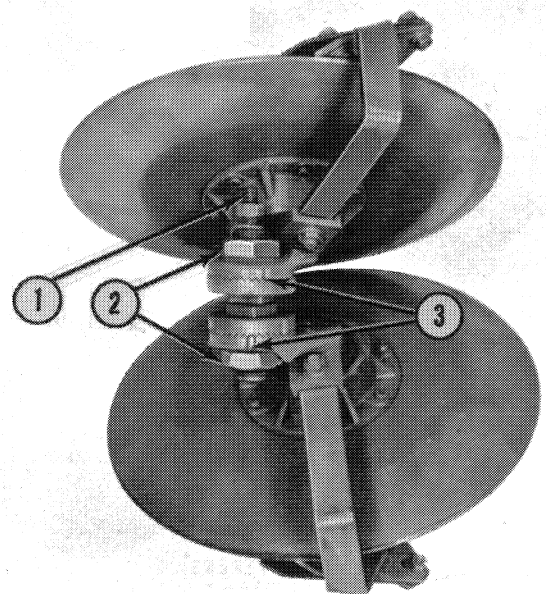
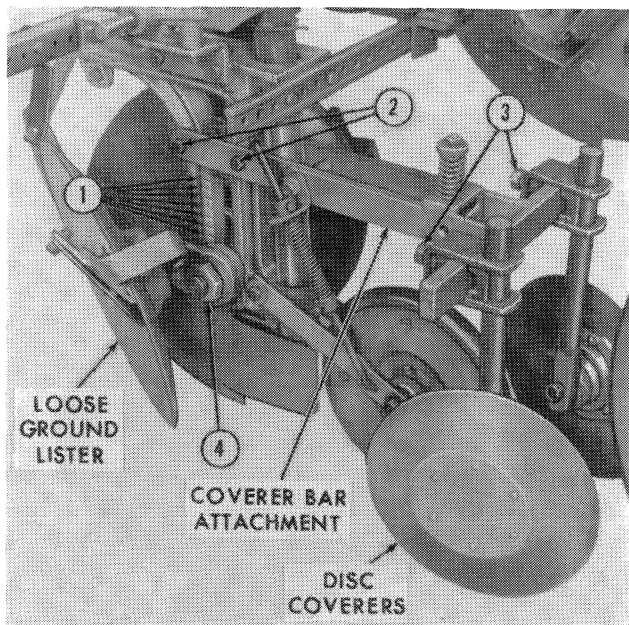
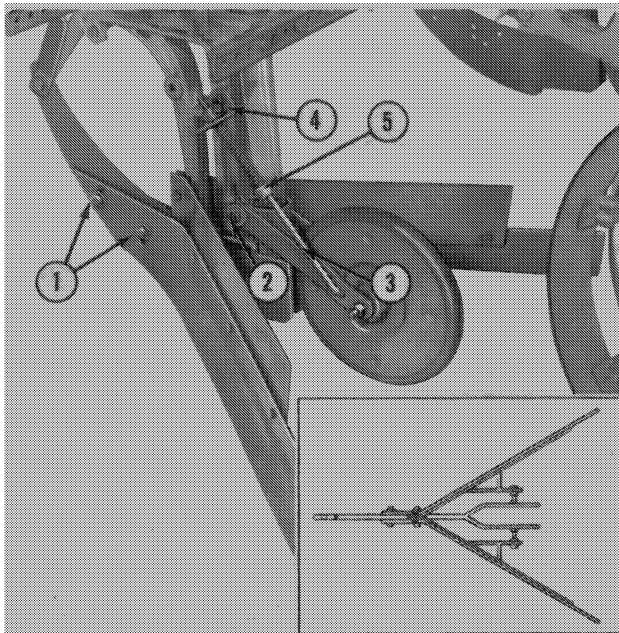

Figure 24
Figure 25
Figure 33
Shipping Information: The 12-178 Loose Ground Lister (one required per row) is shipped as shown in Figure 24, as Bundle No. 12-178. This unit is designed for use in areas where furrow planting in prepared land is practiced. The discs can be raised or lowered to control planting depth. The point at which the discs converge can also be adjusted by rotating the disc support bracket. Index markings for height and angle make it easy to place all discs at the same setting. The discs rotate on sealed ball bearings and require no lubrication.
Attaching: Separate the two discs by removing the 1/2" bolt shown at (1), Figure 24. Position the two halves on the opener support, as shown in Figure 25, and replace the 1/2" bolt, lock washer, and nut.
Adjustment: The entire loose ground lister assembly can be raised or lowered on the opener support by loosening the nut (4), Figure 25, and lifting or lowering the discs. The notches (1) are provided on the opener support to give reference points for use when adjusting the lister. The angle at which the discs
operate can be adjusted by loosening the 1-1/8" jam nuts (2), Figure 24, and rotating the discs in the direction desired. When adjustment is complete, the jam nuts must be tightened securely. The lugs shown at (3), Figure 24, are provided to facilitate disc angle adjustment. When one disc is set at the desired angle, the opposite disc can be adjusted for exactly the same angle by counting the number of teeth between the lugs on the adjusted disc and then matching that number on the opposite disc.
Shipping Information: The 12-179 Coverer Bar Attachment (one required per row) is shown in Figure 25.
Attaching: One 12-179 Coverer Bar Attachment is attached to each planter opener support using the two 7/16" x 2-3/4" bolts, lock washers, and nuts as shown at (2), Figure 25. In this illustration, the 12-139 Disc Coverers are shown mounted to the coverer bar attachment.
Attaching: A pair of disc coverers are shown attached to the planter in Figure 25. They are clamped in place on the 12-179 Coverer Bar by means of the two bolts shown at (3), Figure 25.
Attaching: The 12-258 Shovel Coverers are attached to the 12-179 Coverer Bar in the same manner as the 12-139 Disc Coverers. See (3), Figure 25.
Attaching: The 12-141 Spoon Coverers are attached to the coverer bar in the same manner as the 12-139 Disc Coverers. See (3), Figure 25.
Attaching: The bed sweep is fastened to the opener as shown at (1), Figure 33. The bolts pass through elongated holes to facilitate adjustment. To raise or lower the sweep, loosen the two bolts and adjust the sweep as desired. If additional adjustment is needed, the sweep can be removed and reinstalled in two of the other holes in the runner. Adjust the stop bolts on the back side of the sweeps to help support and maintain the sweep angle. Securely tighten the jam nuts, following all adjustments.
Attaching: The seed press wheel is bolted to the runner support, as shown at (2), Figure 33, with one 7/16" x 3-1/4" bolt, lock washer, flat washer, and nut. The spring tension rod (3) is held to the runner support by means of the angle bracket (4). A 7/16" x 3-1/4" bolt, lock washer, and nut is used to hold this bracket to the runner support. The spring pressure may be adjusted by relocating the collar (5). To increase the pressure, loosen the set screw and move the collar up against the spring until the desired pressure is obtained. Tighten the set screw. When the cover bar attachment (12-179) is used, the spring tension rod can be attached as shown in Figure 25. Adjustment of the spring tension is performed in the same manner as described above.